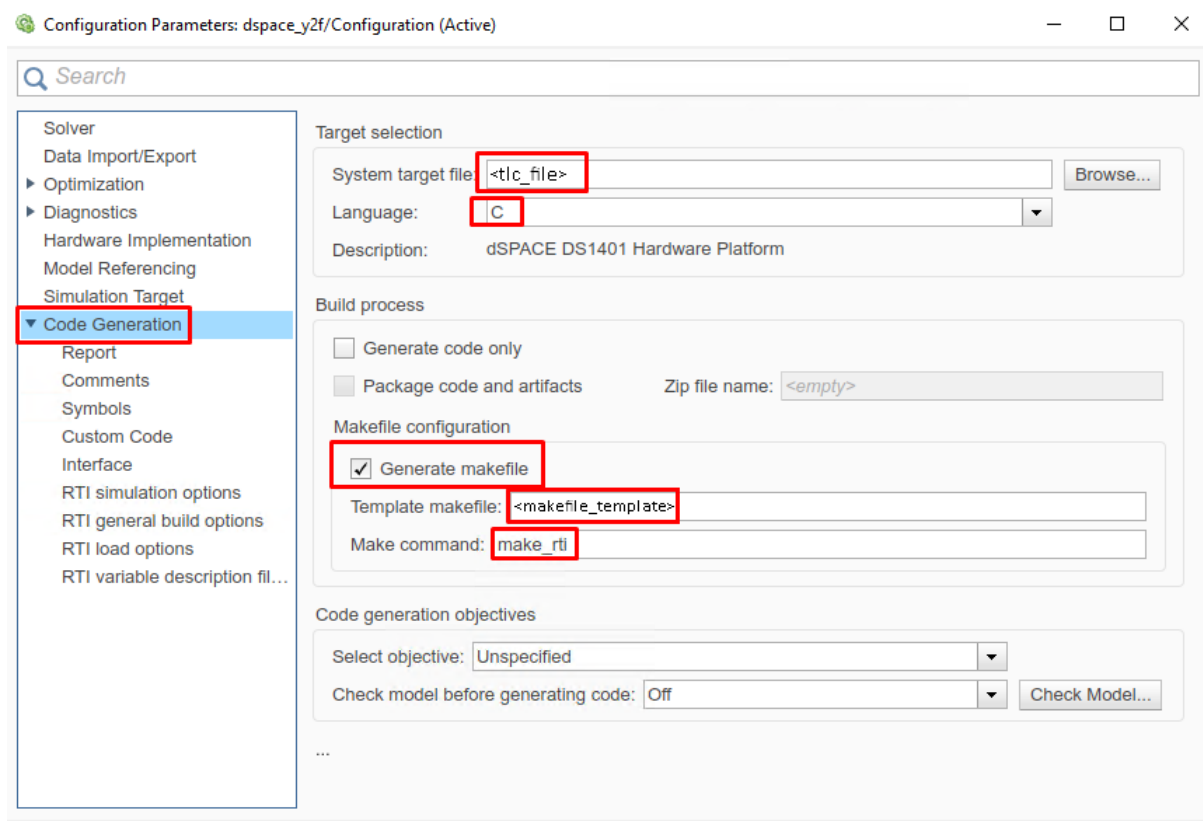

Figure 13.23: Set the Simulink code generation options.
8. (Figure 13.23) In the “Code Generation/RTI general build options” tab, set the options (for `<tlc_file>` and `<makefile_template>` see *Simulink Model HW Target Configuration*):